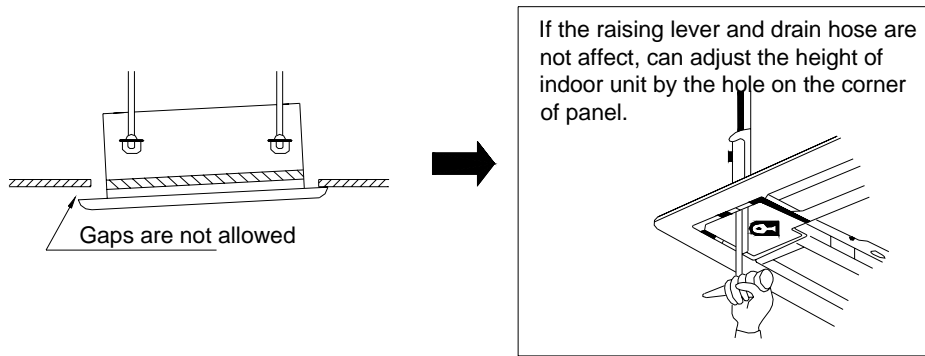

Fig.6
2. If gap still exist between ceiling and decoration panel after tightening the screws, readjust the height of the indoor unit. (As shown in fig.6)